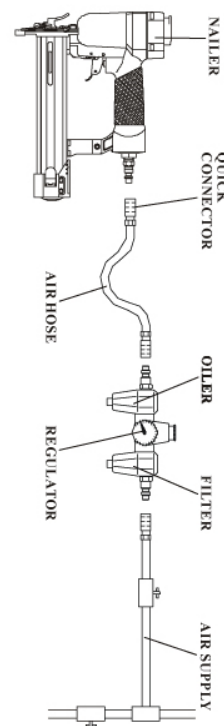

Figure 1
Your air tool is fully assembled when you receive it. Before using it, attach the air line and desired air system accessories. See Figure 1 for the recommended accessories and connection order. Be sure the air hose is depressurized when installing or removing adapters to the air line.
3. Connect the tool to the air supply (see Figure 1 for recommendations).
1. Frequent, but not excessive, lubrication is required for best performance. Oil added through the airline connection will lubricate internal parts. An automatic inline oiler is recommended, but oil may be added manually before every operation or after about 1 hour of continuous use. (see Figure 1) Only a few drops of oil at a time are necessary. Too much oil will use detergent oil or additives, as these lubricants will cause accelerated wear to the seal in the tool.